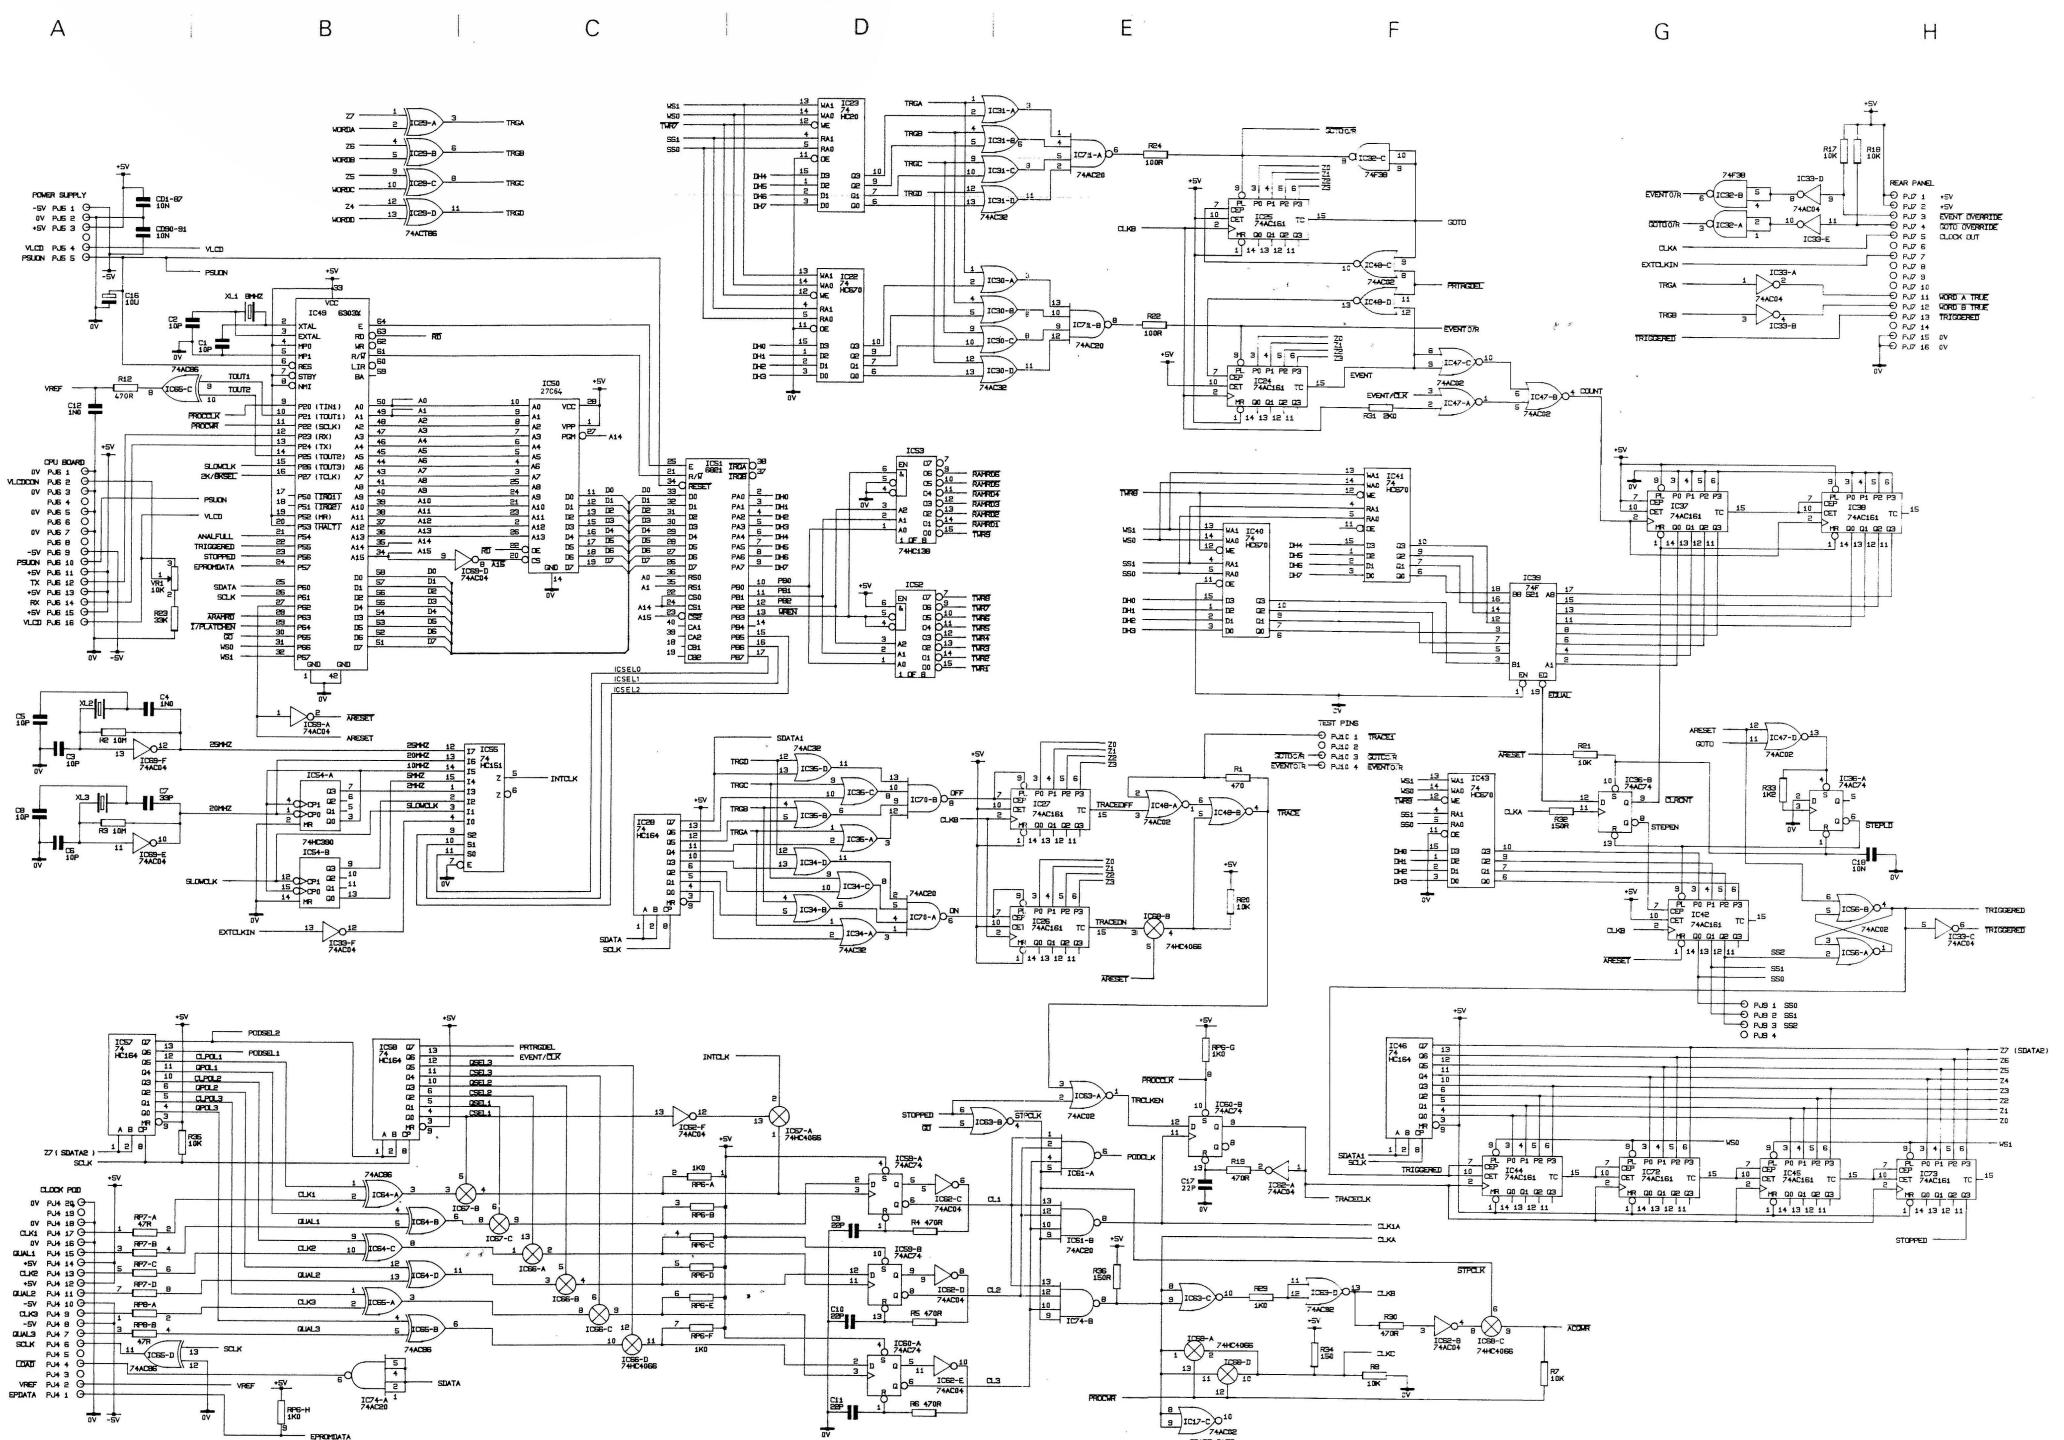

Fig 3 LA4800 MAIN PCB - SHEET 2
- Fig 3 LA4800 MAIN PCB – SHEET 2